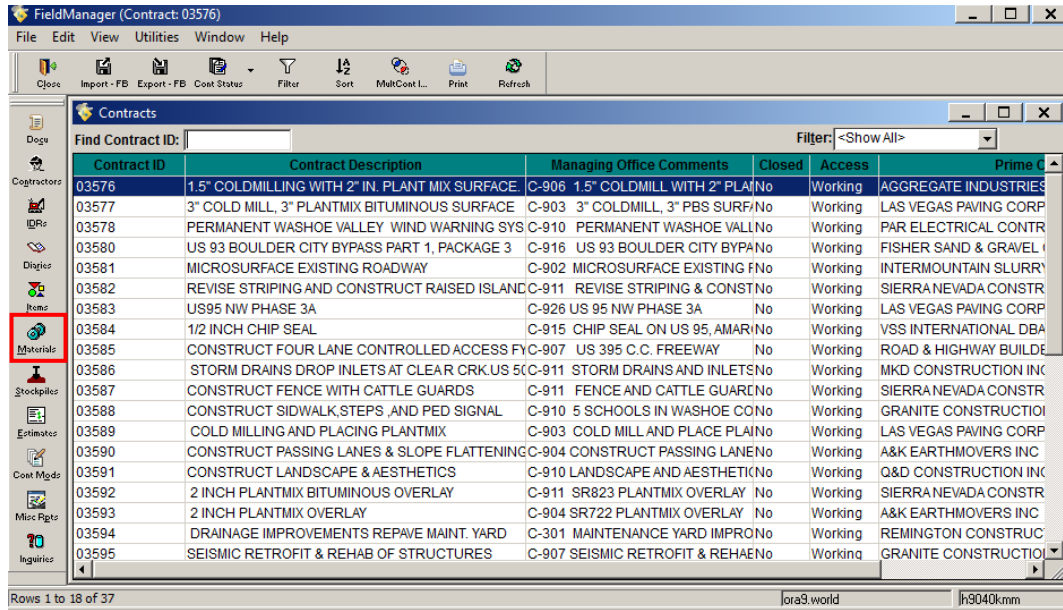
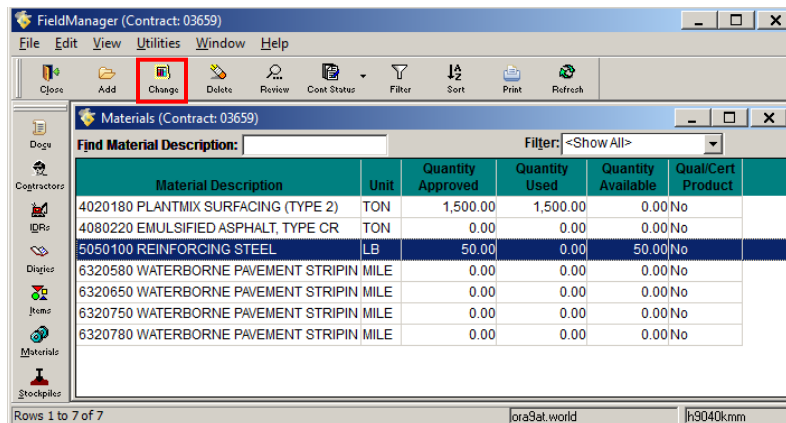
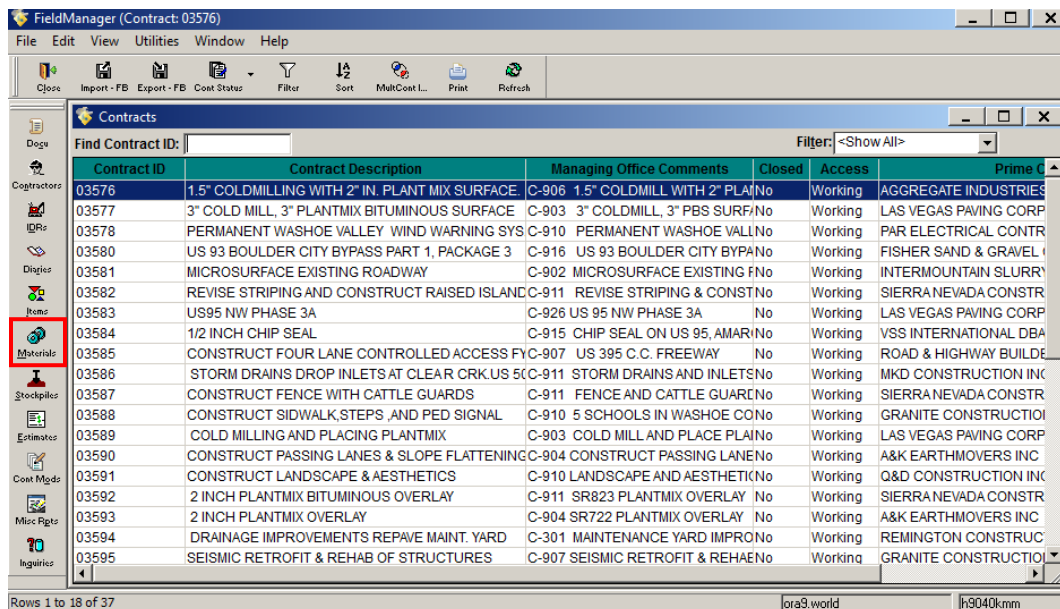

Figure 6-14. FieldManager Contracts List Window
Figure 6-15. Materials List Window
Figure 6-19. FieldManager Contracts List Window
- Select the contract in the Contracts list window and click **Materials** on the Application Toolbar (Figure 6-14). The Materials list window opens (Figure 6-15).
- Select the material and click **Change** on the Window Toolbar (Figure 6-15). The Change Material window opens in the **General** tab.
1. Select the contract in the Contracts list window and click **Materials** on the Application Toolbar (Figure 6-14). The Materials list window opens (Figure 6-19).